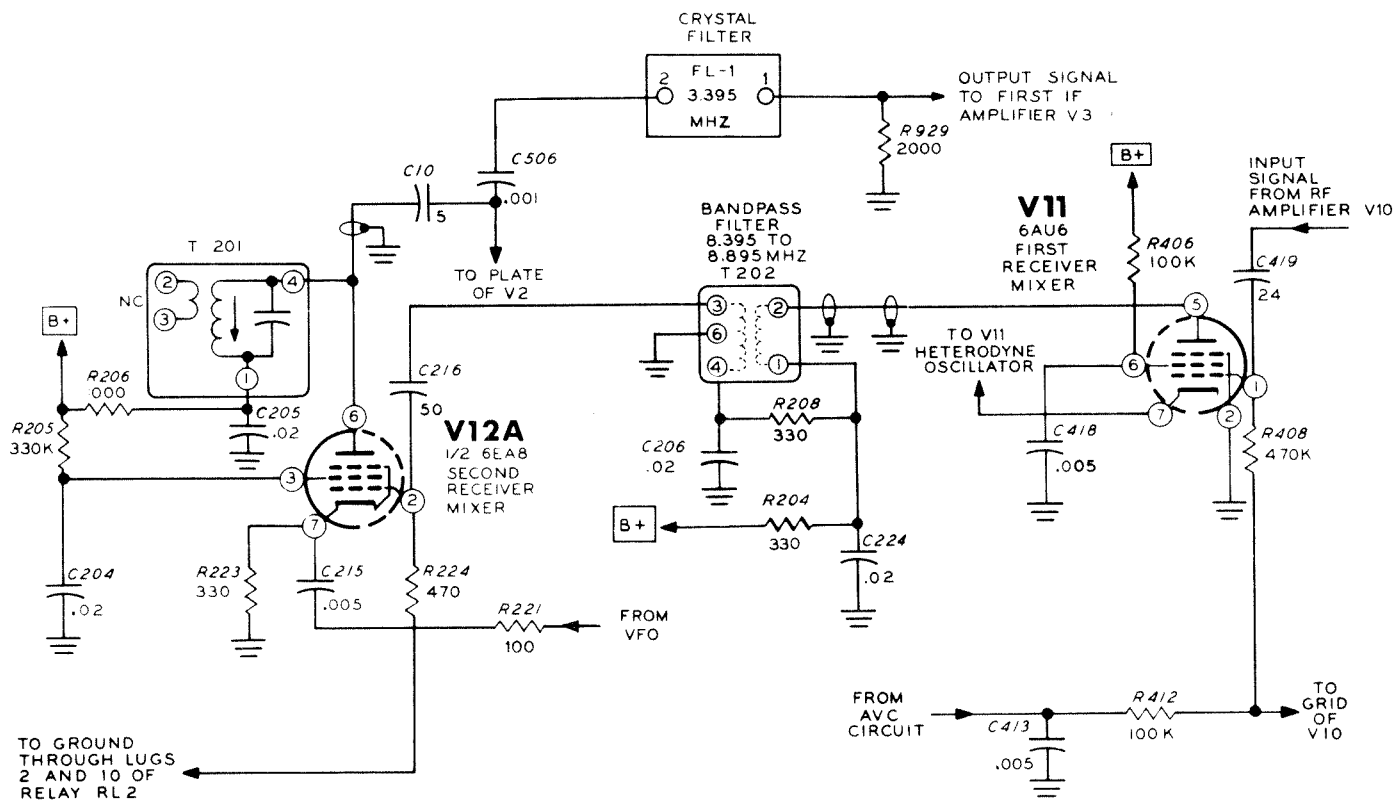

Figure 2-22
**FIRST AND SECOND RECEIVER MIXERS (Figure 2-22)**